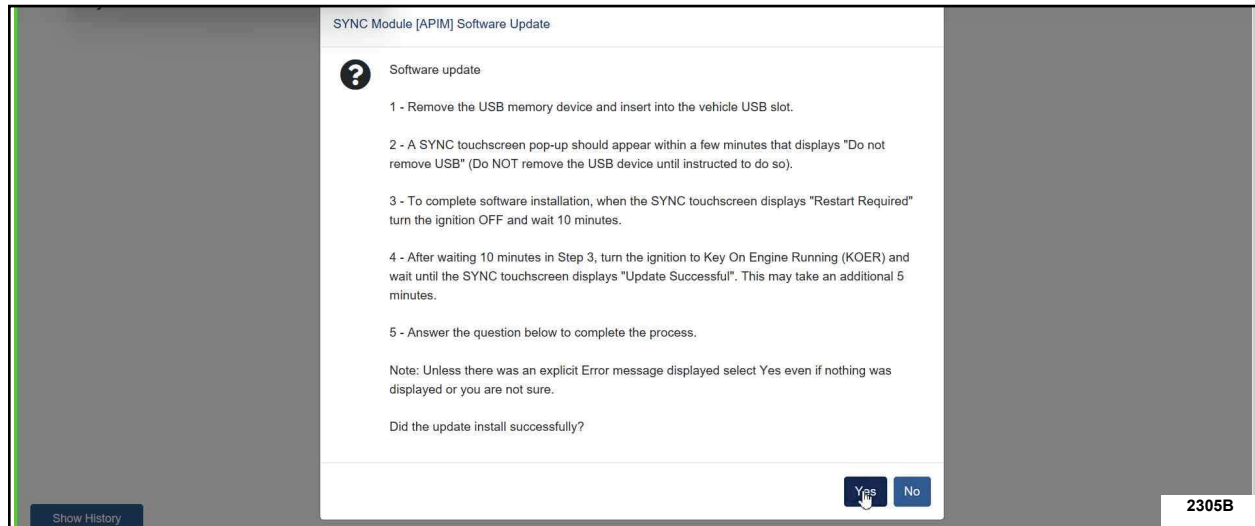

FIGURE 8
37. Return the USB thumb drive to the FDRS and follow the on-screen prompts carefully until the following screen is reached. See Figure 8.